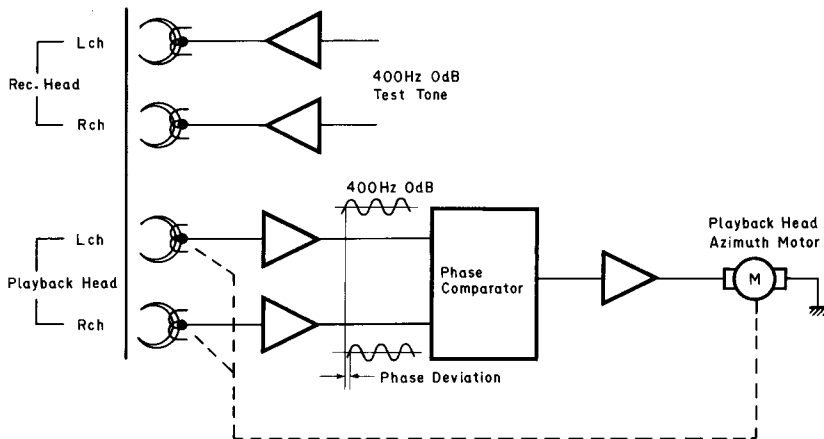

Fig. 5.3 Playback Head Azimuth Correction Circuit
This step reduces the phase difference to zero, thereby adjusting the playback head azimuth precisely to the record head azimuth via the tape. The result is optimum characteristics. See Fig. 5.3.
- Phase comparison of the Lch and Rch outputs is made once every 100 ms in the automatic playback head azimuth correction circuit (Fig. 5.3). If phase deviation between the channels is detected, playback head azimuth correction (in steps of approximately 1.3°) is ordered; this process is repeated until the phase deviation is corrected and that correction confirmed 10 times.